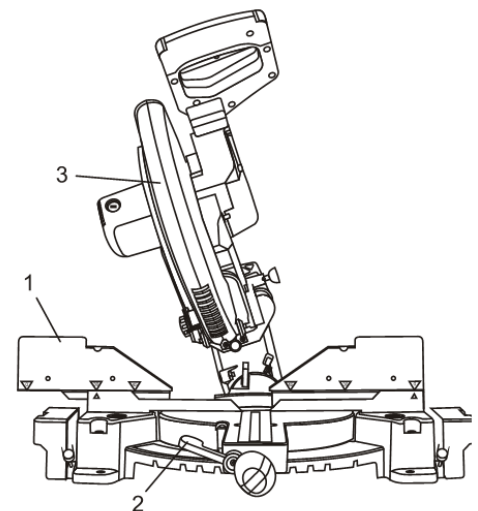

Fig. 30
2. Loosen the bevel locking lever (2) (Fig. 30).
3. Rotate the cutting head (3) to the desirable bevel angle.